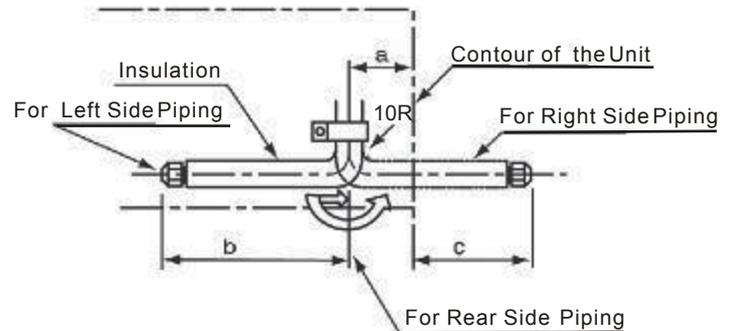

Fig. 5.1 Liquid pipe
(1) Position of piping connection is shown in Figure 5.1 and 5.2.
(2) Piping Direction for the Indoor Unit Three directions of piping connection to the indoor unit can be performed; to the rear side, the right side and the left side of the unit, respectively. Therefore, most appropriate piping for a room can be selected.